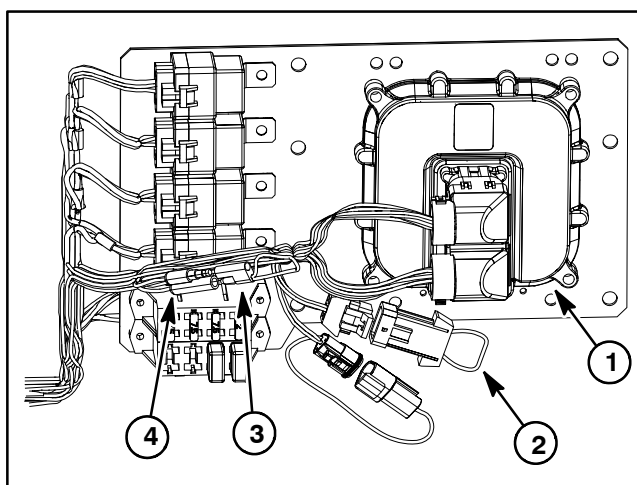

Figure 10
- The loopback connector (6 pin connector) is not connected to the machine wire harness (Fig. 10). The loopback connector is near the TEC controller on the mounting plate under the dash panel.
2. Locate diagnostic tether cap that connects the two (2) diagnostic shunt wires located near the TEC controller on the mounting plate under the dash panel (Fig. 10).
3. Remove diagnostic tether cap from diagnostic shunt wires and connect the two (2) shunt wires together.